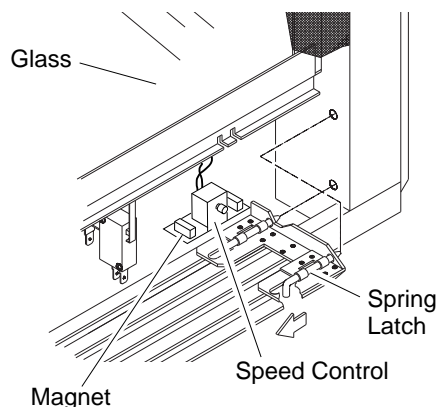

Figure 33 - Blower Speed Control Location
- Place speed control switch assembly on the bottom of the inside of the firebox (see Figure 33). The assembly is equipped with magnets on the left and right to properly anchor it to the firebox.